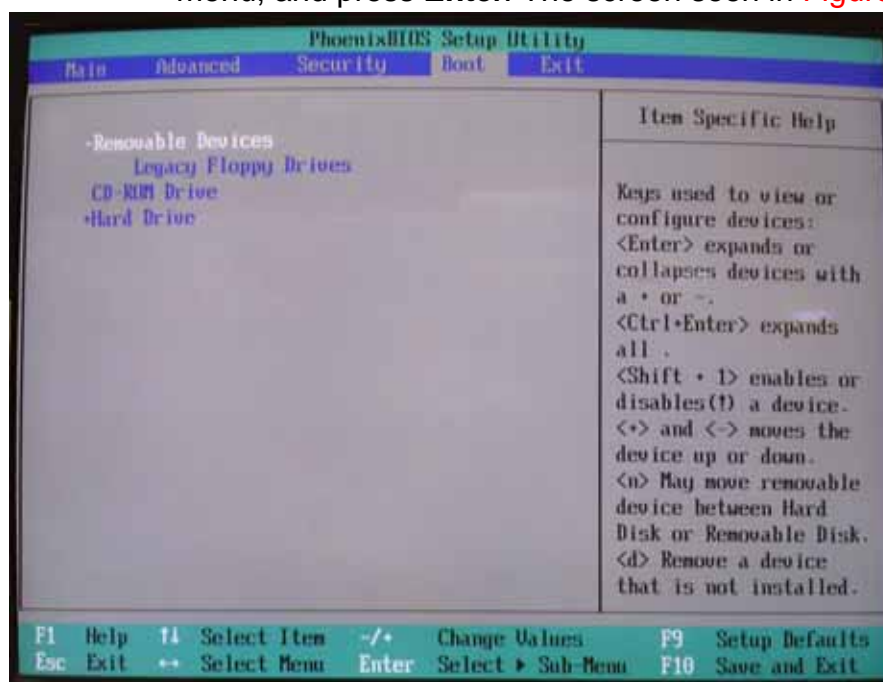

Figure 6-15. BIOS Boot screen
4. Use the keyboard's arrow keys $\uparrow \downarrow \leftarrow \rightarrow$ to cursor left-to-right to the **BOOT** menu, and press **Enter**. The screen seen in **Figure 6-15** appears.